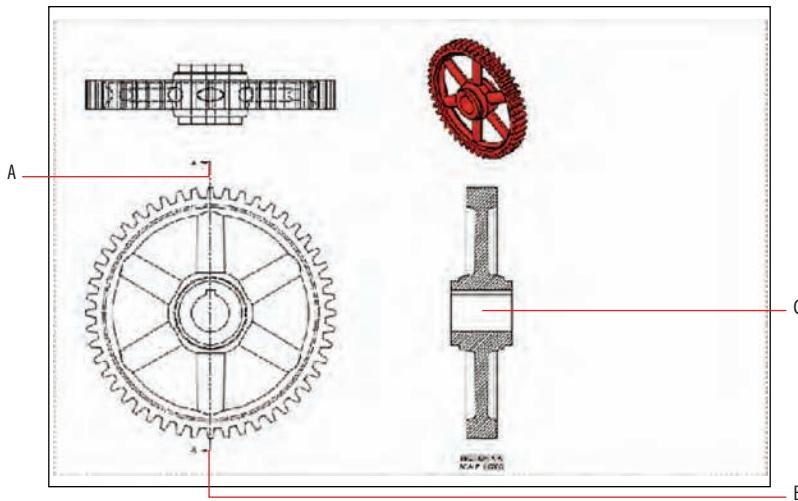

FIGURE 18.24 Creating a section of the base view
10. Toggle on Ortho in the status bar. Click points A and B shown in Figure 18.24 to draw a section cut line and press Enter. Click point C to locate the section view and press Enter to end the **VIEWSSECTION** command.